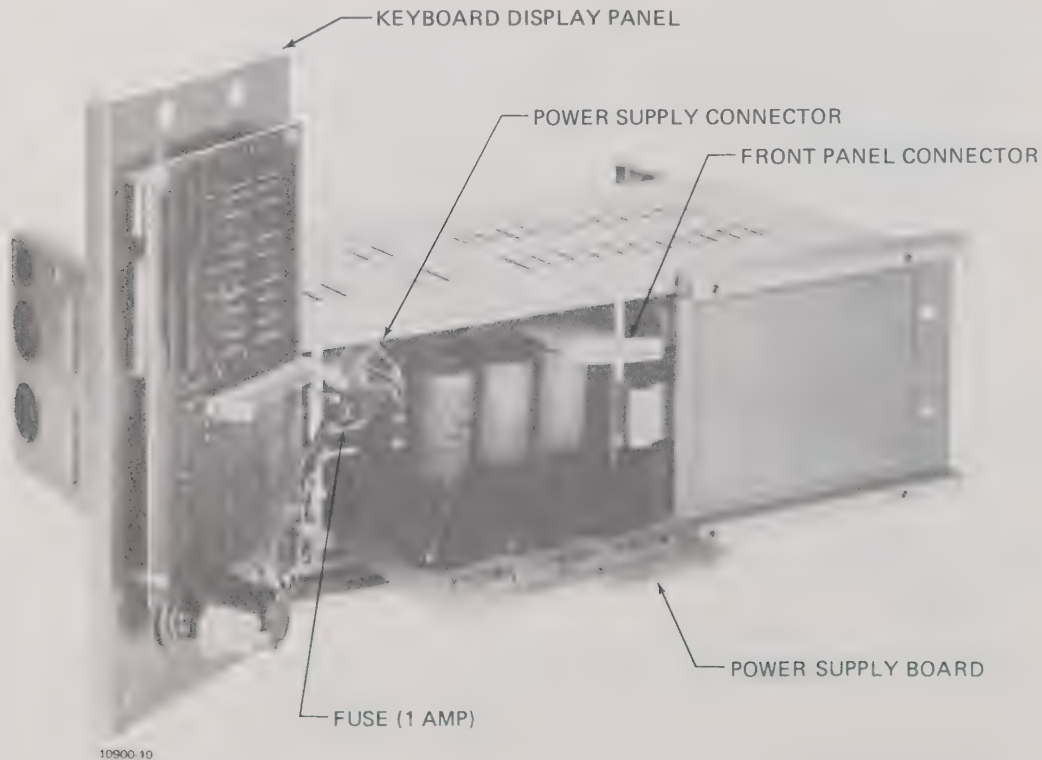

Figure 5.2 - Power Supply Replacement
3. Check the power supply voltages again. If the voltage is still absent the power supply is probably bad and is replaced as shown in Figure 5-2.
4. If the instrument is totally dead (i.e. - no power supply voltages present) check the fuse behind the keyboard panel (see figure 5-2). Replace with 1A medium acting.